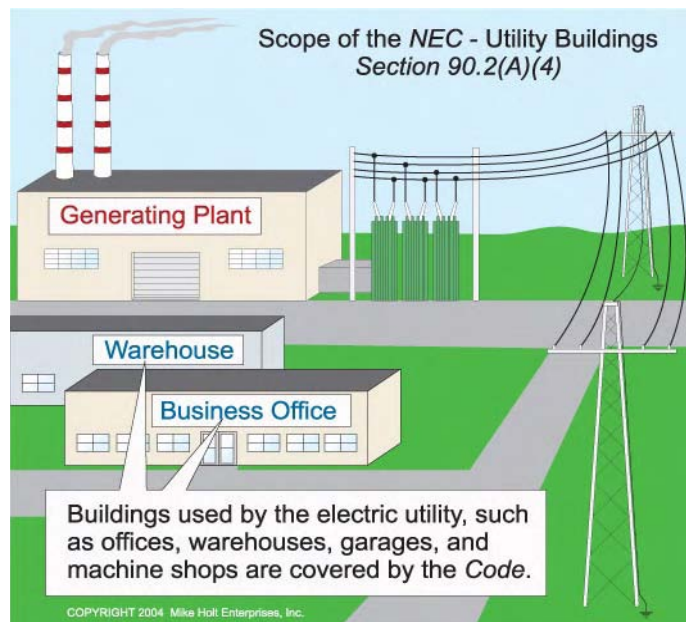

Figure 90-4
- (1) Public and private premises, including buildings or structures, mobile homes, recreational vehicles, and floating buildings.
- (2) Yards, lots, parking lots, carnivals, and industrial substations.
- (3) Conductors and equipment that connect to the utility supply.
- (4) Installations used by an electric utility, such as office buildings, warehouses, garages, machine shops, recreational buildings, and other electric utility buildings that are not an integral part of a utility's generating plant, substation, or control center. Figure 90-4